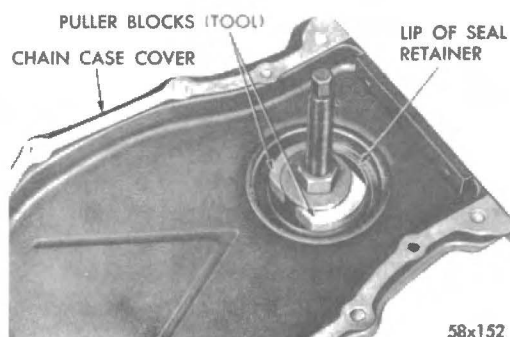

Fig. 15 Puller Blocks expanded to Puller Position (Tool CA-3506)
(1) Position the puller screw of Tool CA-3506 through case cover, the inside of case cover up. Position the puller blocks directly opposite each other, and force the angular lip between the neoprene and flange of the seal retainer.
(2) Place the tool washer and nut on puller screw. Tighten the nut as tight as possible by hand, forcing the blocks into the gap to a point of distorting the seal retainer lip (Fig. 15). This is important (puller is only positioned at this point).
(3) Place the sleeve over the retainer